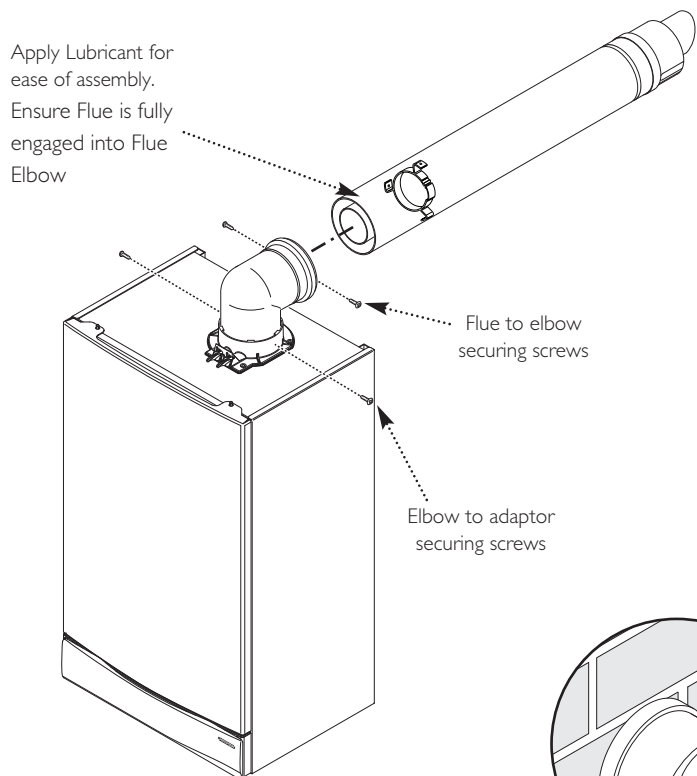
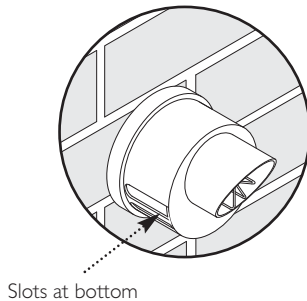

Fig. 35
Fig. 36
9. Draw the flue back through the wall and engage it in the elbow. It may be necessary to use soap solution or similar to ease assembly of the elbow adaptor and flue (Fig. 35).
10. Ensure that the terminal is positioned with the slots to the bottom (Fig. 36). Secure the flue to the elbow with the screws supplied (Fig. 35).
11. Secure the elbow flue to the boiler adaptor with the screws supplied in the boiler fittings pack (Fig. 35).